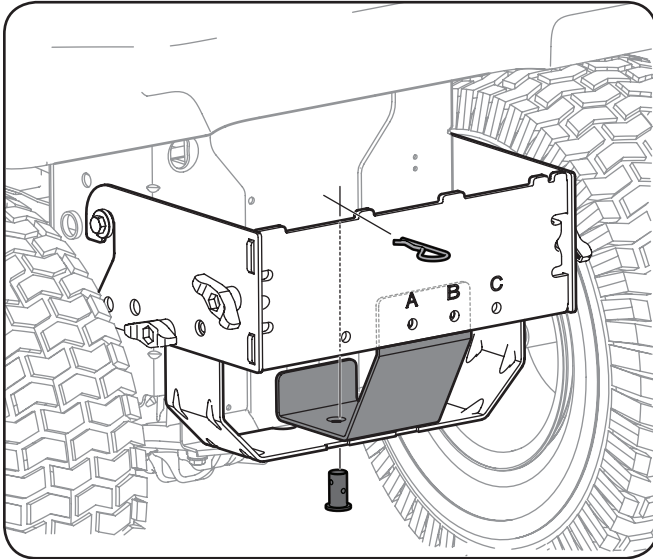

Figure 4-4
2. Install the bagger support bracket, included with the loose parts, into the mounting assembly as shown in Figure 4-4. Line the holes up as shown.
3. Install the clevis pin (711-0309A) from hardware pack 689-00328A into the tractor's hitch, the bagger support bracket, and the mounting assembly and secure with a hairpin clip (714-0117). See Figure 4-4.